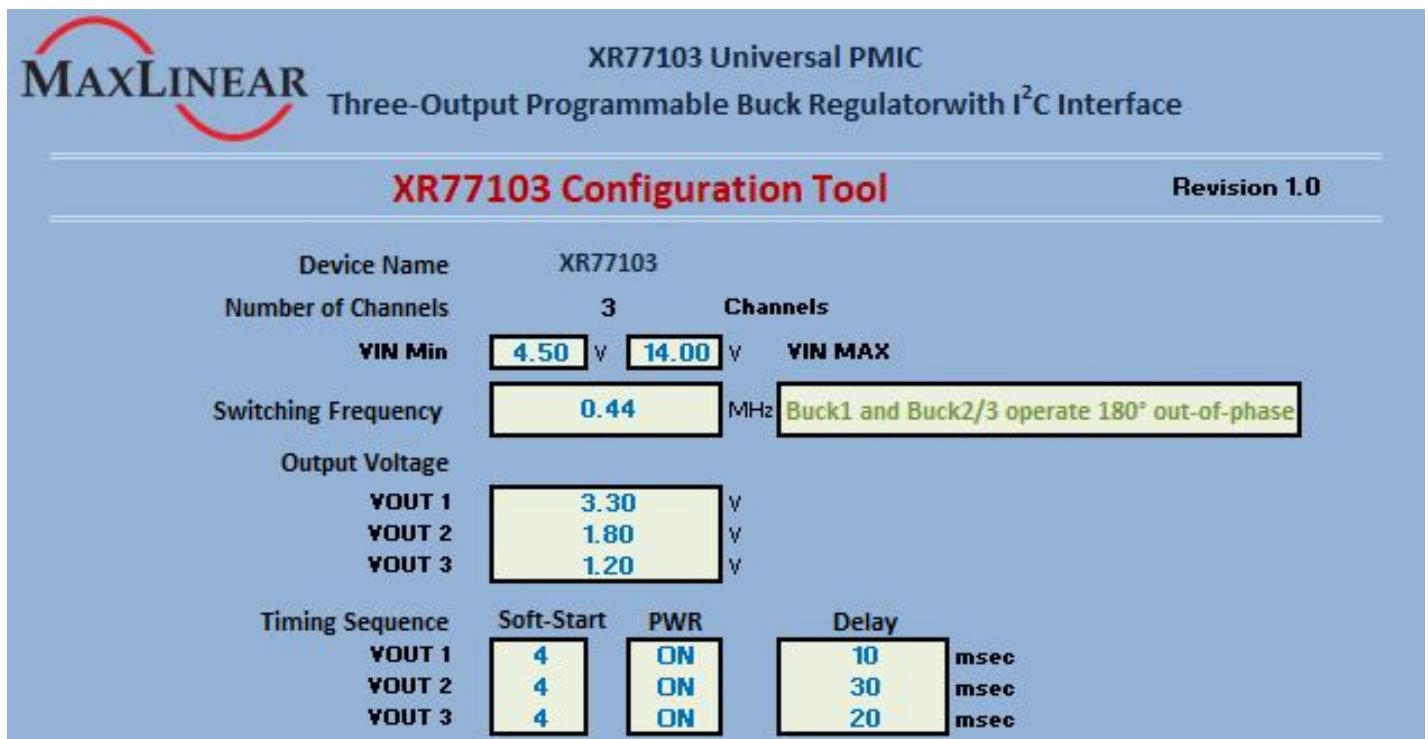

Figure 6: XR77103 Configuration Tool
- 6.** Open the XR77103 configuration tool, see Figure 6.